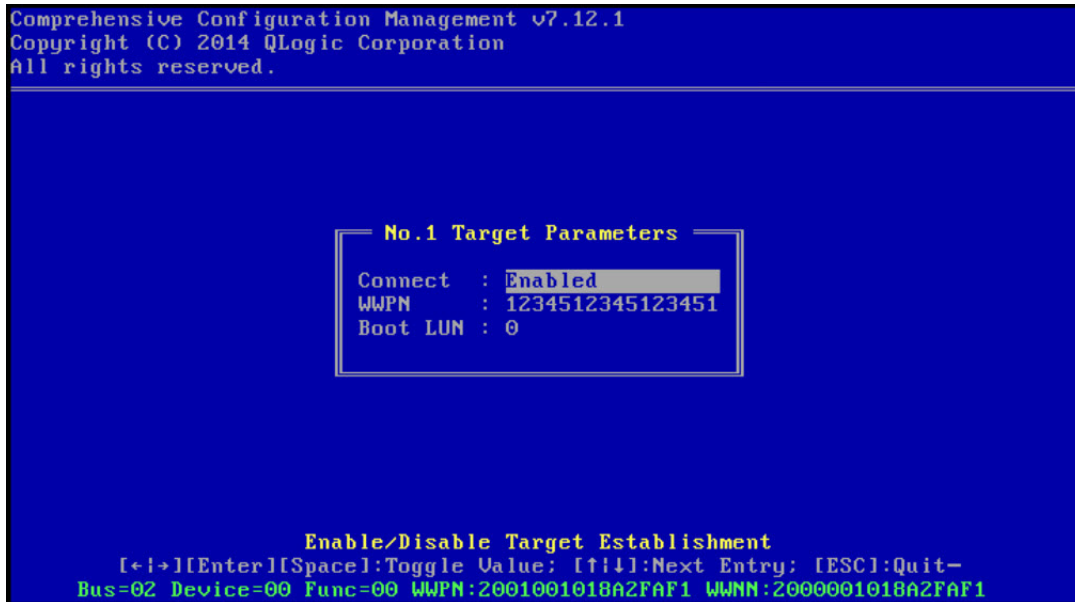

Figure 13-6. CCM Target Parameters
6. Enable the **Connect** option, and then the target WWPN and Boot LUN information for the target to be used for boot (Figure 13-6).